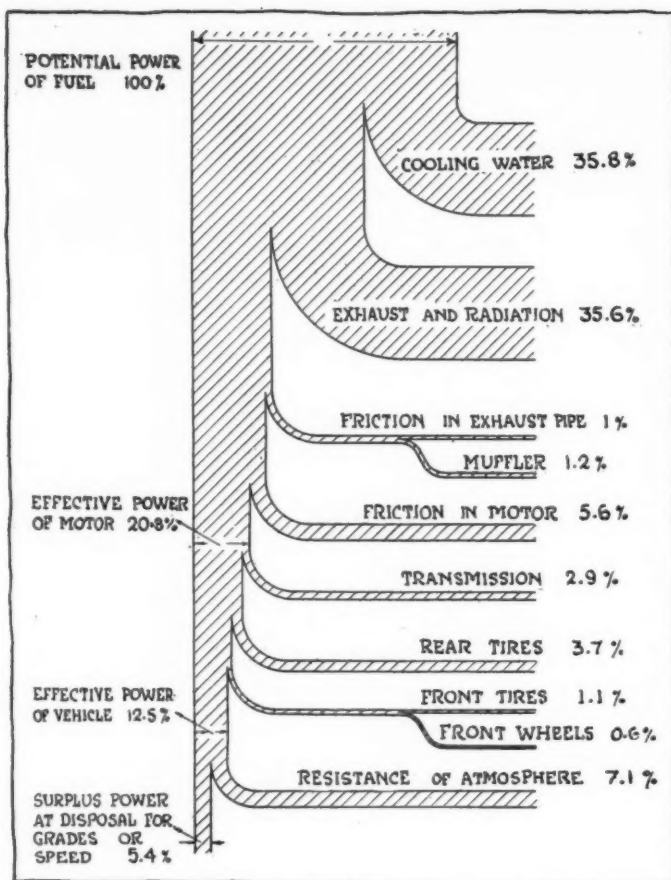
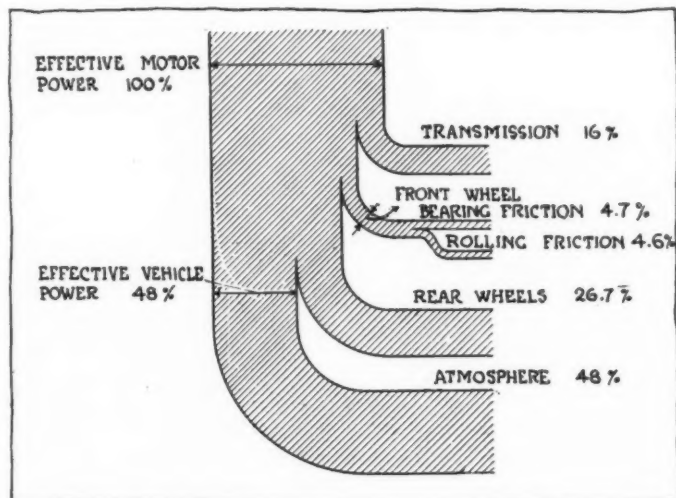

Fig. 1—Wastes and frictions in 30-horsepower car going at 60 kilometers per hour
Fig. 2—Diagram of motor power utilization in 75-horsepower car at 114 kilometers per hour
**DIAGRAMS of Wastes and Frictions**—Among attempted scientific investigations of automobile values on a basis of tests of materials, motors and complete vehicles, none have attracted so much attention or given rise to so many dissenting opinions as the work of Professor Dr. Riedler conducted largely at the Royal Technical Highschool of Berlin and accounted for in a book called *Wissenschaftliche Automobil-Wertung* (Scientific Automobile Valuation), which has also been translated into French. The accompanying diagrams, Figs. 1 and 2, are taken from a review of this book and may be assumed to represent the thermal wastes and different forms of friction which occur in a car at two widely varying speeds as accurately as these important factors may be determined.
In Fig. 1 the heat units contained in the fuel are taken as a basis, and it is shown what becomes of them in a car of 30 horsepower operated at a speed of 60 kilometers per hour. The enormous percentages which go to waste in the cooling-water, by way of the radiator, and in the exhaust gases point the way for the very ambitious inventors who may eventually succeed in producing an internal combustion motor which, like the steam engine, may be protected against the loss of heat instead of being purposely exposed to it. The transmission, on the other hand, is found to consume only about 3 per cent. of the fuel's power value, on direct drive, but this is equal to about 15 per cent. of the effective motor power, since the motor does not transform more than 20.8 per cent. of the fuel into work. In
another instance Dr. Riedler found, however, that 27 per cent. was utilized, but that was the maximum. The value of 5.6 per cent. for friction in the motor, which means largely piston friction, equals a waste at this point amounting to about 28 per cent. of the effective motor power. If it were reduced to one-half, as might perhaps be accomplished by a different piston design or material, by improved lubrication and by offsetting of the crankshaft, the effective motor power should thus be increased 14 per cent. at ordinary fast traveling speeds. It is stated that in the case represented in Fig. 2 the loss due to friction in the motor, which is not shown in the diagram, amounted to 18.5 horsepower, and this figure is not proportionately larger than the figure taken from Fig. 1, while the vehicle in this case is a 75-horsepower Adler racing car going at 114 kilometers per hour and with a motor turning at 2200 revolutions per minute. From this it would seem either that friction in the motor does not increase with motor speed and power, or else that the racing motor in question was distinctly superior on the point of friction to the 30-horsepower motor in the other car.
In Fig. 2 the losses are not traced back to the fuel, but only to the effective motor power. If it is assumed that the latter also in this case is only one-fifth of the fuel power, the percentages of the mechanical losses and of the air resistance are proportionately five times higher than in the first case and should be divided by 5, if the losses in the two cases are to be compared. The form of the diagram shows that it represents top speed. There is no power to spare for grades unless the speed is first reduced. The 48 per cent. air resistance is the last factor in holding the car back. It might be expected to be nearly 4 times as great as the air resistance scheduled on Fig. 1, as the car speed is nearly double, but the powers at work are also very different, while the shape of the racing car is the more favorable of the two, and consequently the actual increase in the air resistance by passing from 60 to 114 kilometers per hour—in two different cars—is found by Dr. Riedler's test to amount to little more than 33 per cent. of the utilized horsepower. That the tires on the rear wheels consume about 18.5 per cent. of the available power in one case and 26.7 per cent. in the other case may seem astonishing, but these figures include the bearing friction and the air resistance to the rotation of the wheels.